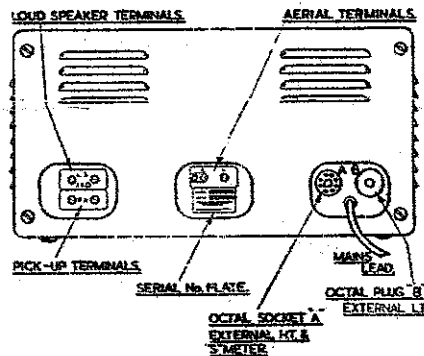

Fig. 2
D.C. mains supplies are entirely unsuitable and if connected will cause serious damage. Ensure that the octal plug is in place in the octal socket "B" (nearest the side of the cabinet) as shown in the drawing, Fig. 2.
The flexible lead from the meter terminates in an octal plug which should be inserted in the socket marked "A" in Fig. 2 at the rear of the receiver.